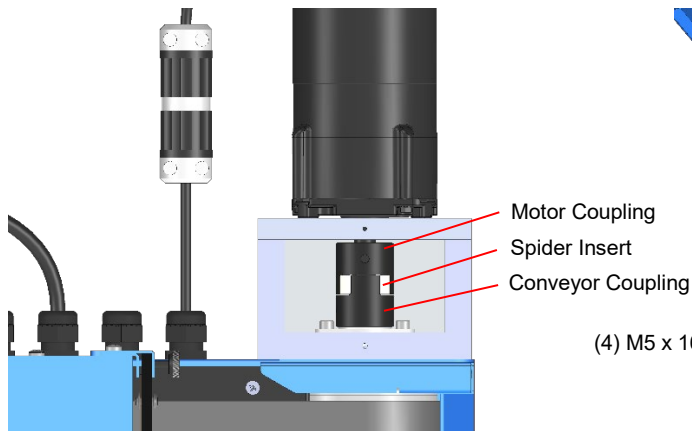

Figure 10. Install Motor Subassembly and Motor Coupling
4. Align the Motor subassembly to the conveyor by aligning the coupling on the Motor shaft to the spider insert of the Conveyor coupling (Figure 10). Spin the Conveyor roller to align the coupling jaws if needed.
7. Push the coupling on the Motor shaft in tight to the spider insert of the coupling. Tighten the 1/4-20 x 1/2" set screw to lock the position of the coupling (Figure 10).